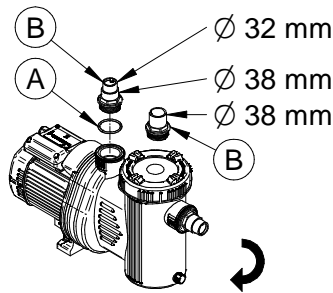

Fig. 59
1. Position the O-rings (Fig. 59, # A) on the rubber holder (Fig. 59, # B).
2. Screw the two rubber holders in (Fig. 59) on the *inlet* and *outlet* side of the *pump*.